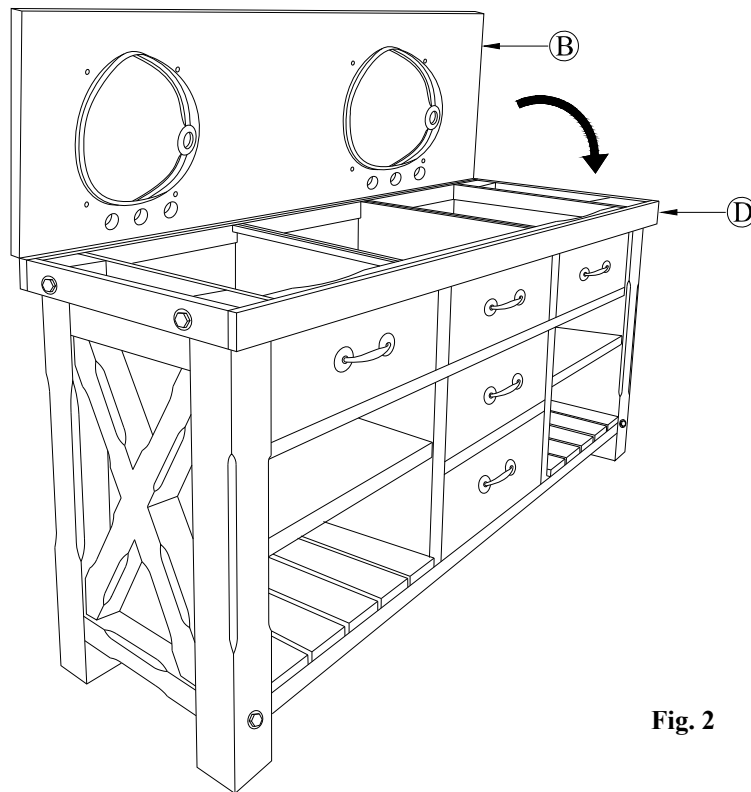

Fig. 2
- Carefully lift up the marble top (B) with basin attached to place it onto the console base (D). Let the marble top lies flatly on top of the console base (D). Fig.2